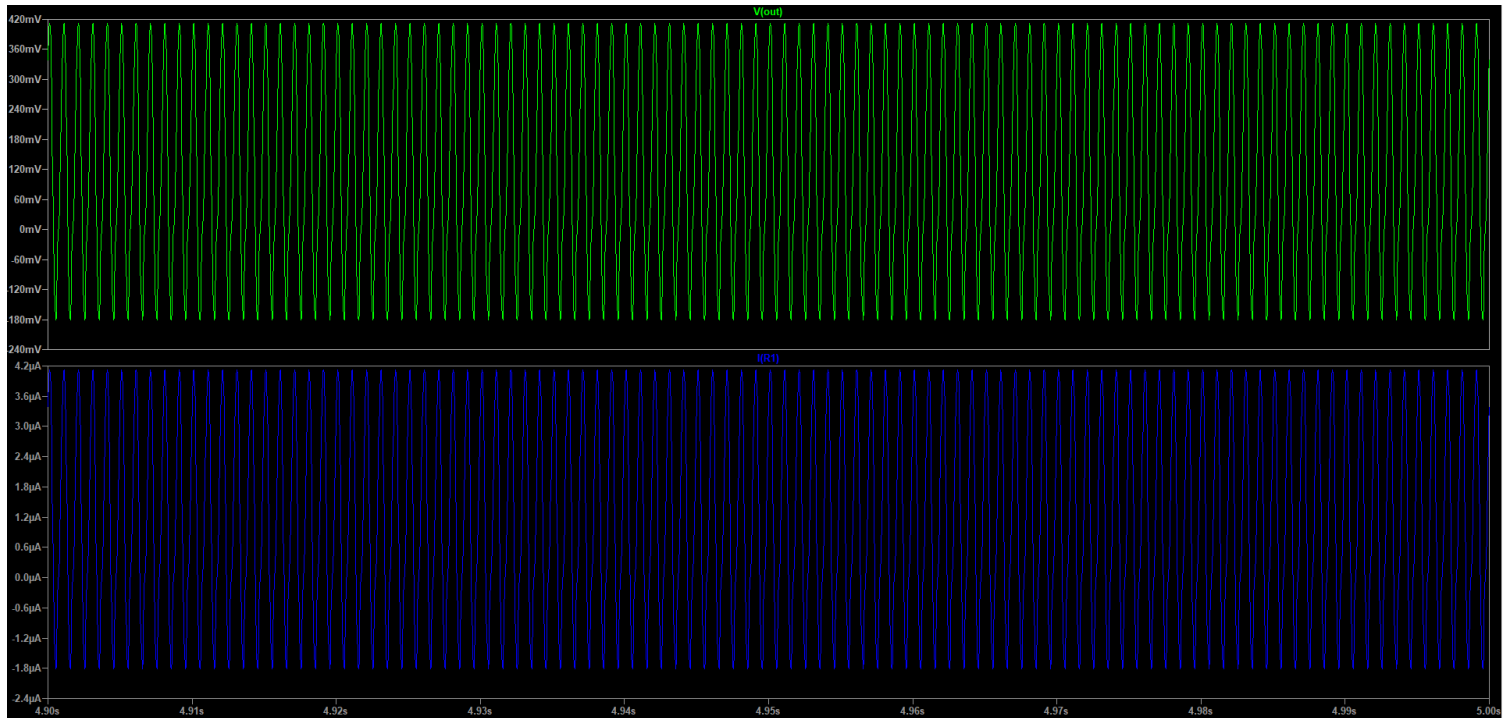

Figure 12: Output of Reference Design With Load
- As you can see from the figure 12 the output with load resistor is far away from what we expected and which is a big problem. Even if we connect a big resistor like 100 kΩ the output is not satisfying. So that, the reference design and the values of components must be rearranged.